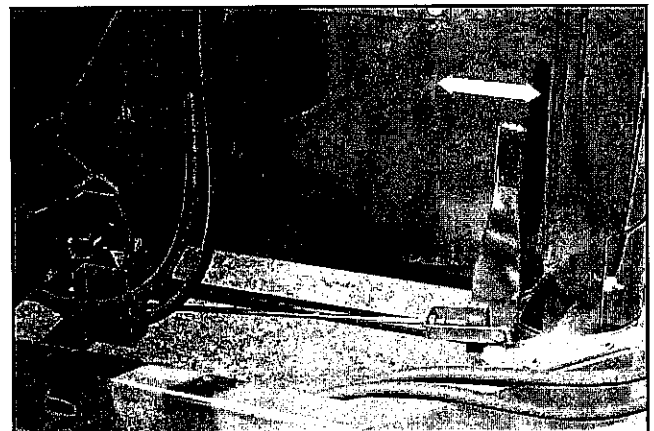
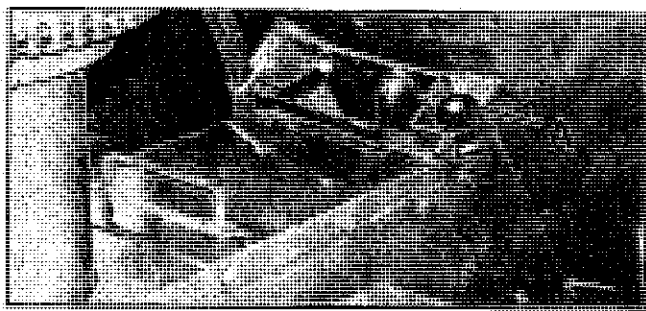

Figure 30: Unloading clutch operation.
Figure 31: Unloading door. A - Eccentric lock.
**UNLOADING CLUTCH DRIVE:** (See Figure 30). Move the clutch handle ahead and down to engage the augers. Open the unloading door, the eccentric may be used to hold open. (See Figure 31, page 20). When tank is unloaded, reverse procedure.